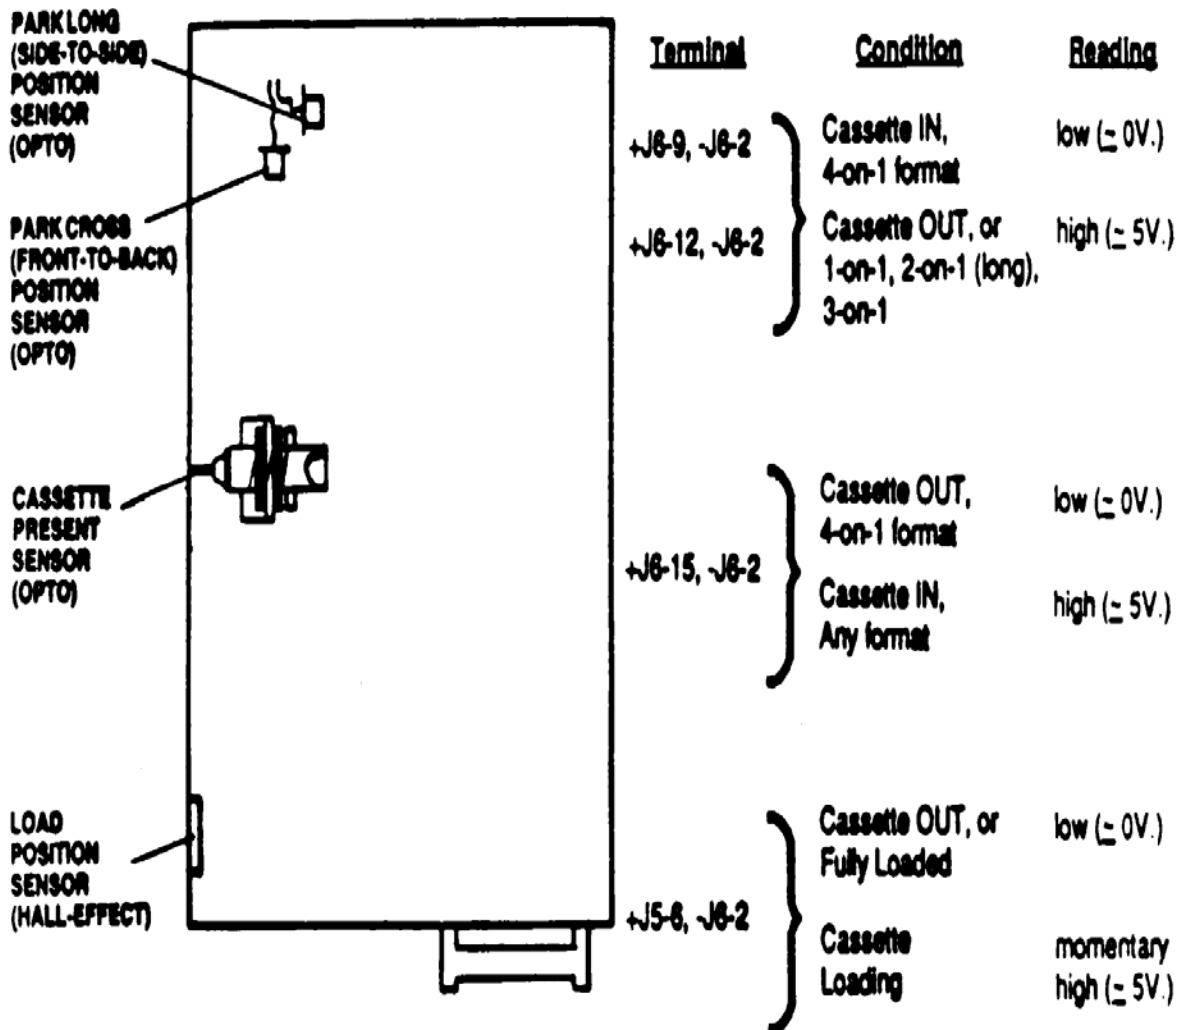

Figure 1-3. Chassis sensor locations.
- (1) Remove the imaging system following the instructions provided by the manufacturer.
- (2) Remove the front cover by removing the three screws securing the rear lip to the chassis. Lift the cover up and back to disengage the front studs.
- (3) Remove the imaging system adapter plate by removing the eight screws securing it to the SFD and lifting it from the chassis.
e. **Adjustment of Chassis Sensors.** Figure 1-3 below shows the locations of the chassis-mounted sensors, their functions, and the connection points on the interface board headers for voltmeter checks.